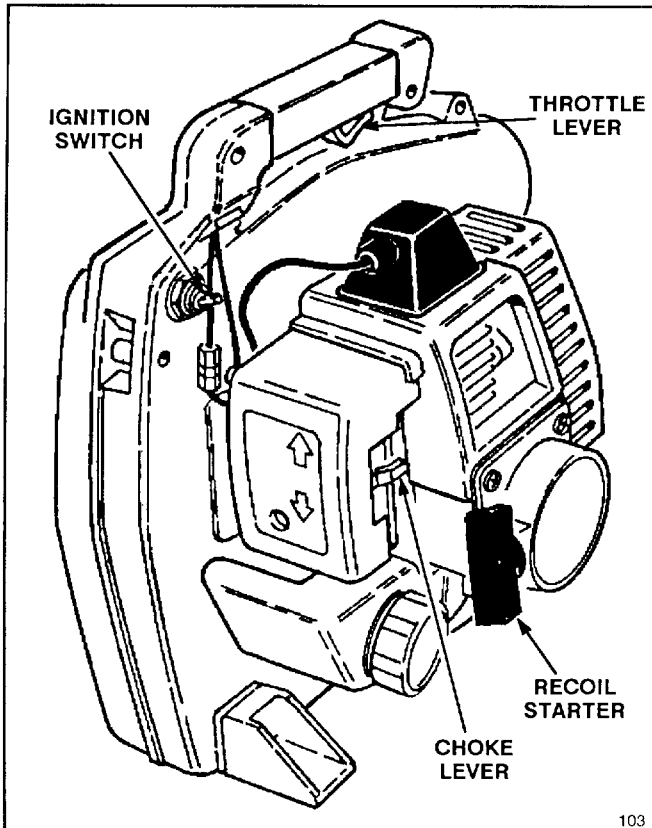

Figure 5
## STARTING AND STOPPING INSTRUCTIONS (Fig. 5)
3. Vary engine RPM by operating the throttle lever (Fig. 5). Idle speed, if desired for blowing leaves from a lawn or flower bed, is achieved by leaving the throttle lever in the idle position.